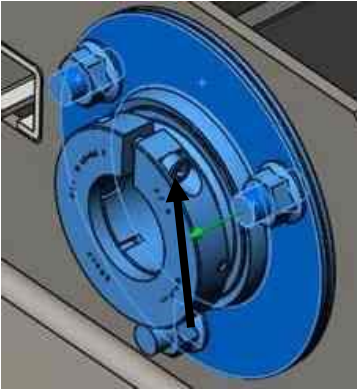

Figure 6
- Install the LH bearing in the center feeder deck frame. Figure 6. Note: The collar should only be held in place by the set-screws and not clamped on the shaft.